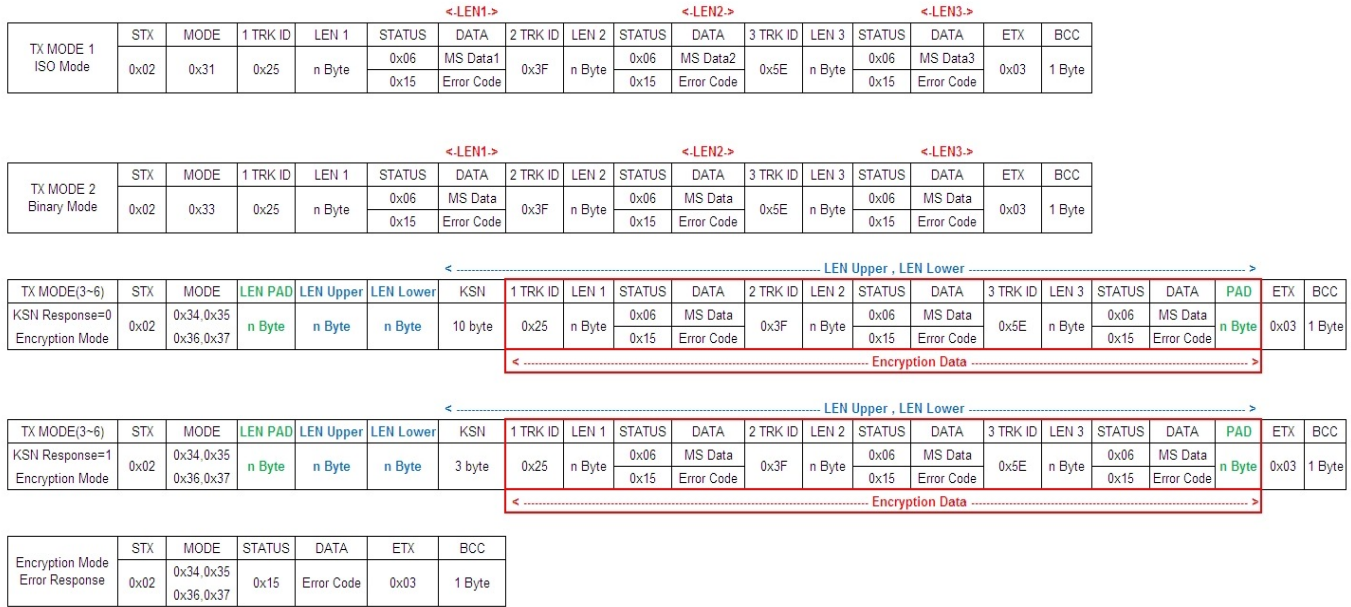

Figure 5: TX Data frame format
- The data frame formats are shown in Fig. 5.